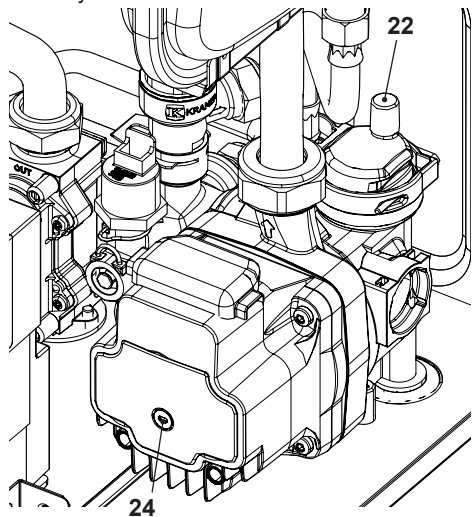

Fig. 7.2
- Loosen the cap on the automatic air purger valve 22 in Fig. 7.2 and leave open permanently.
- Purge the air from the pump by unscrewing the pump plug 24 (Fig. 7.2); release the pump shaft by turning in the direction indicated by the arrow on the information plate.